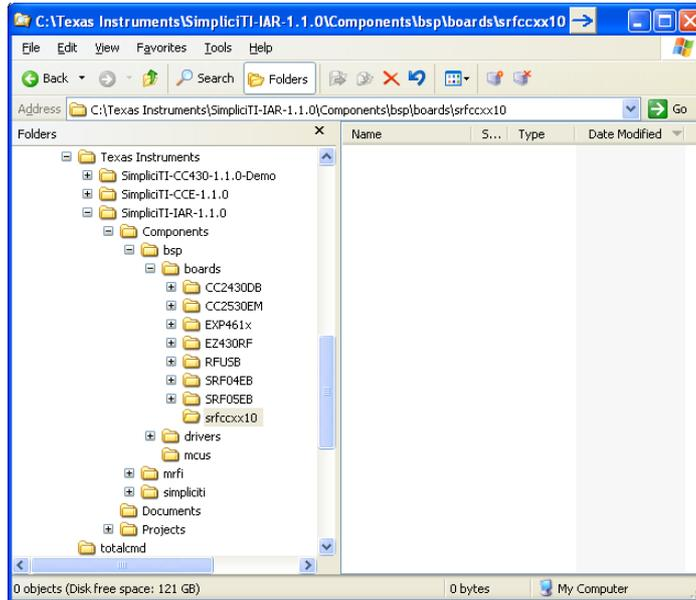

Figure 1. Create the srfccxx10 Folder
3. Under C:\Texas Instruments\SimpliciTI-IAR-1.1.0\Components\bsp\boards, create a new folder called srfccxx10 as shown Figure 1.